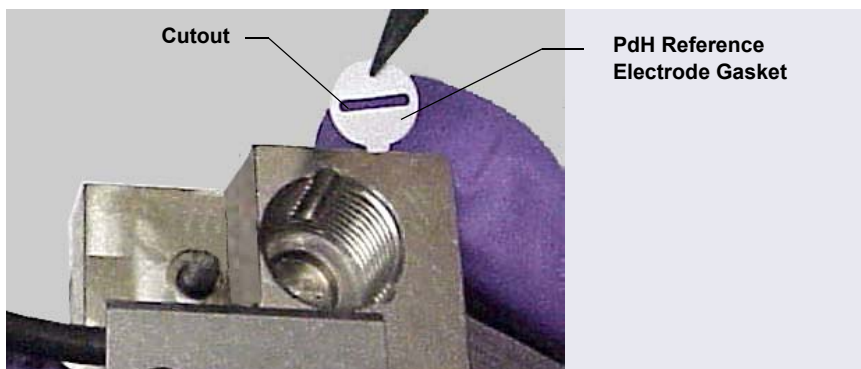

Figure 9-70. Installing the PdH Reference Electrode Gasket
5. Using tweezers, grasp the new PdH reference electrode gasket (P/N 072214) on its edge (see Figure 9-70). To avoid deforming the gasket cutout, do not place the tweezer tips on the cutout.